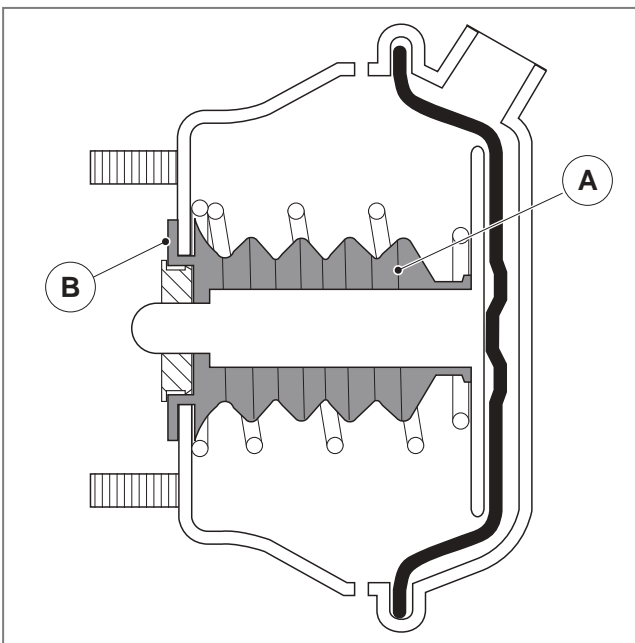

Fig. 27 - Internal view of the brake chamber
11. On the brake chamber, there must be an internal bellows (A) on the piston rod, see ► *Fig. 27*.
13. Check that the external seal flange (B) is correctly seated, intact and undamaged.